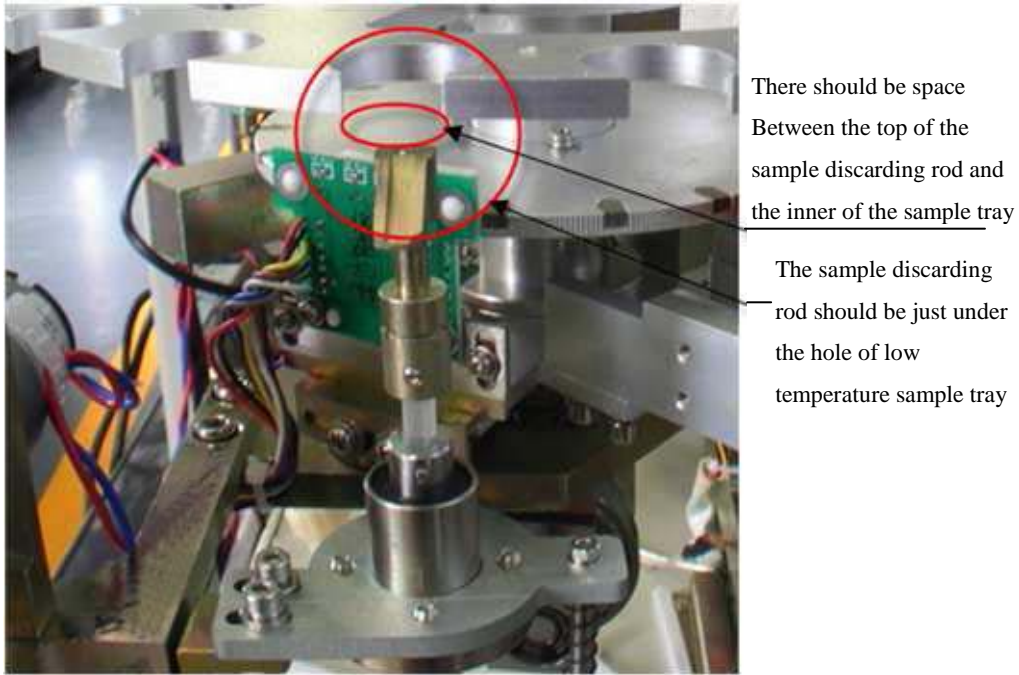

Fig.3-25
- 8) Adjust the all-around position and the height of the sample discarding bar to make it right under the sample discarding hole of the low-temperature tray and the space between the top point and sample hole inner side edge be (2~3)mm. Shown as fig.3-25.